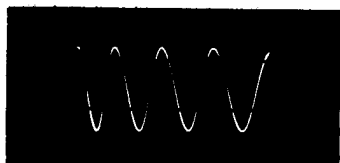

Figure 1
- (✓) Set the SYNC. SELECTOR switch to the +INT. position, the HOR. GAIN control to 30, the VERT. INPUT switch to X10, and the VERT. GAIN control to 100. Now set the HOR./FREQ. selector to the dot between 10 and 100, and adjust the FREQ. VERNIER to obtain a pattern consisting of four complete sine waves similar to that shown in Figure 1. This check indicates that the sweep generator is operating normally at a frequency of 60/4, or 15 cycles per second. Reduce the HOR. GAIN setting if necessary. The breaks in the trace are caused by the fields of the power transformer. This will not be present with external signals.